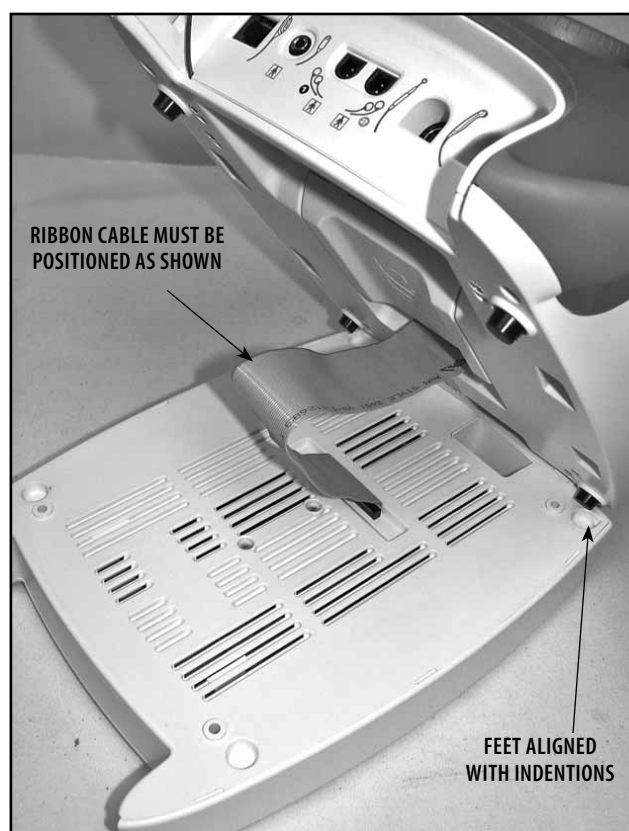

FIGURE 6.6
8. Position Therapy System over Module as shown in Figure 6.6. Align Therapy System Feet with Module Indentions. **RIBBON CABLE MUST BE POSITIONED AS SHOWN!**